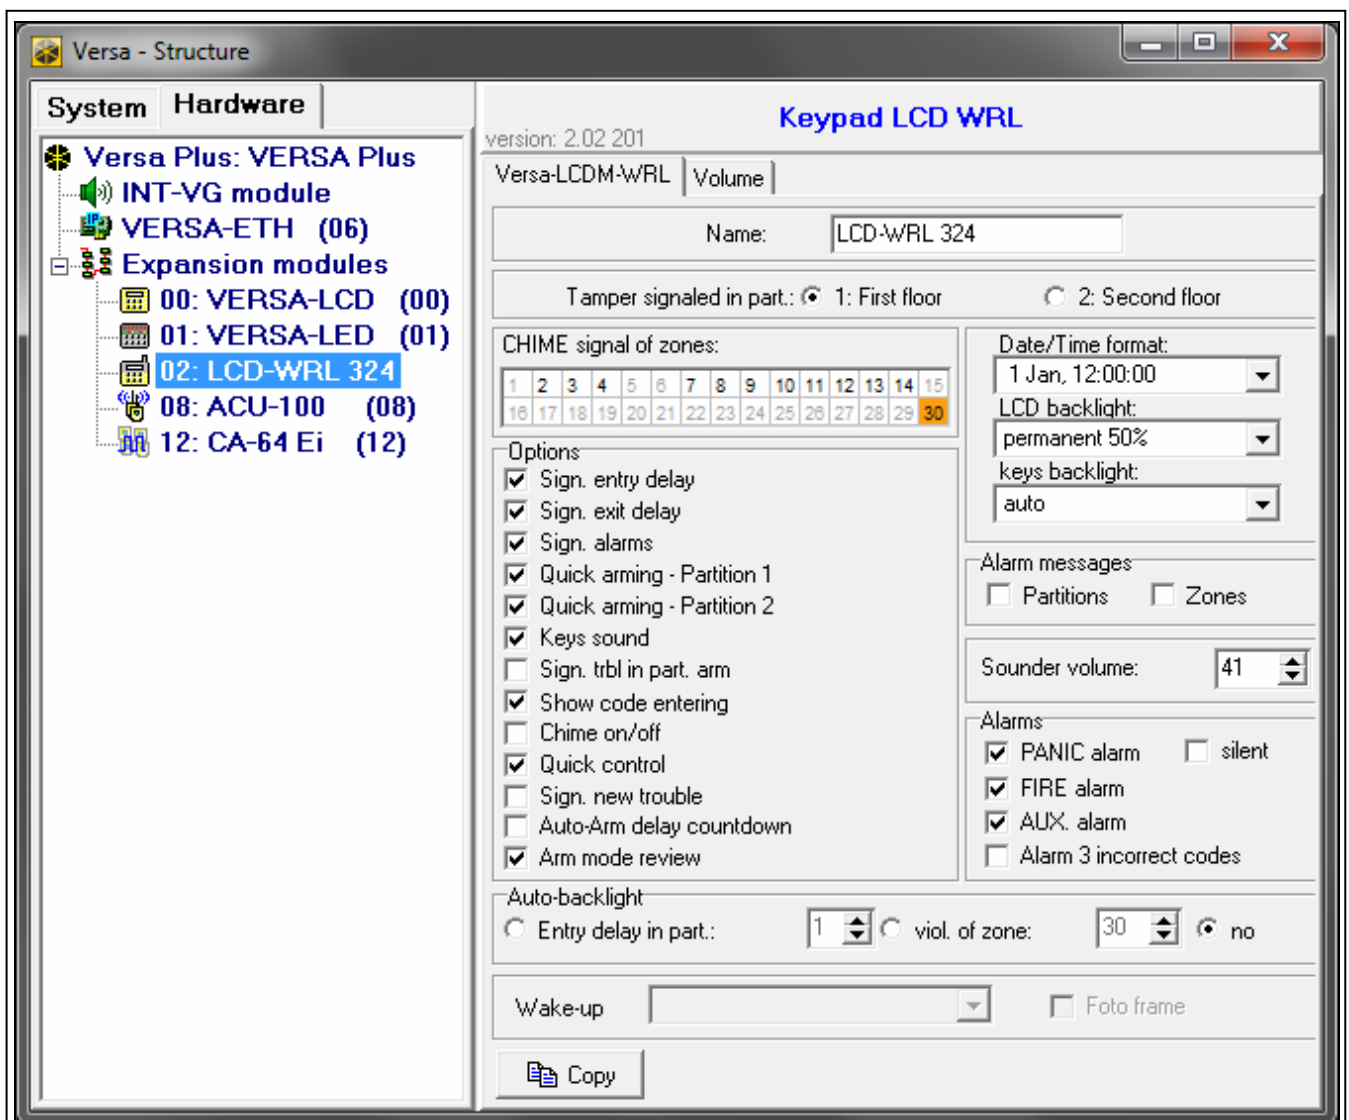

Fig. 4. DLOADX program: keypad settings stored in the control panel.
- DLOADX program: →“Versa – Structure” window →“Hardware” tab →“Expansion modules” branch →[keypad name] (see: Fig. 4),